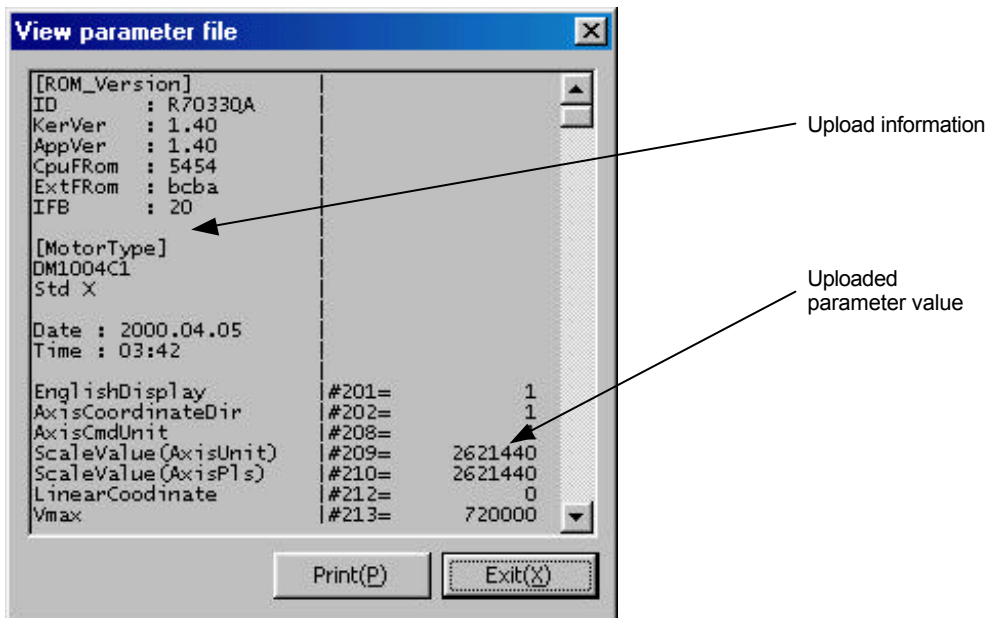

Figure 7.29 "Parameter file display" dialog box
- 1) Click *“View file (V)”* in the *“Parameter Manager”* dialog box.
- 3) Click *“Open (O)”* to begin displaying the file contents in the *“Parameter file display”* dialog box (see Figure 7.29).
- 4) If you want to print the file, click *“Print (P).”*
- 5) Click *“Exit (X)”* and return to the *“Parameter Manager”* dialog box.